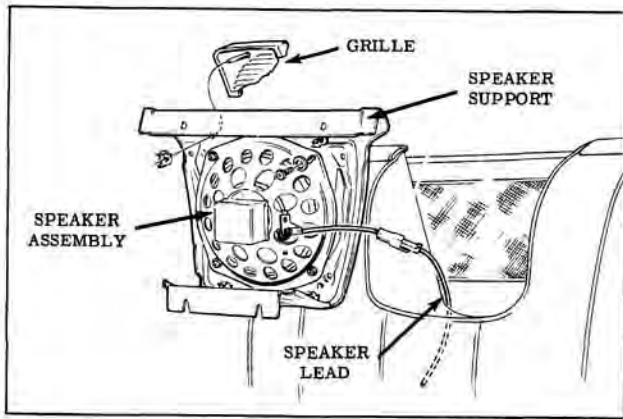

Fig. 12-26 Rear Seat Speaker (67 Style)
5. Disconnect lead wire from speaker. Remove the four speaker attaching screws and remove speaker. (Fig. 12-26)